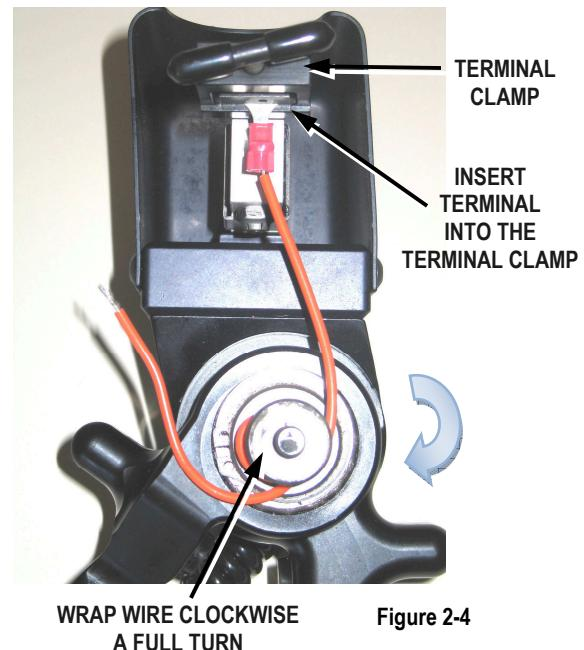

Figure 2-4
5. Insert the wire / terminal lead in the terminal clamp, and tighten the grips T-handle to secure. Do not clamp the conductor crimp. See Figure 2-4.